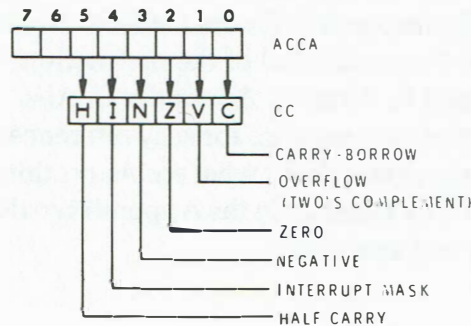

Figure 6-17
You will notice that there are no instructions for individually clearing the (N), (Z), or (H) flags. However, we can still set or clear these flags with the Transfer-Accumulator-A-To-The-Processor-Condition-Code-Register (TAP) instruction. Figure 6-17 illustrates the execution of this instruction. The contents of bits 0 through 5 of accumulator A are transferred to the condition code registers. Thus, this instruction allows us to set or clear all the condition codes at once.